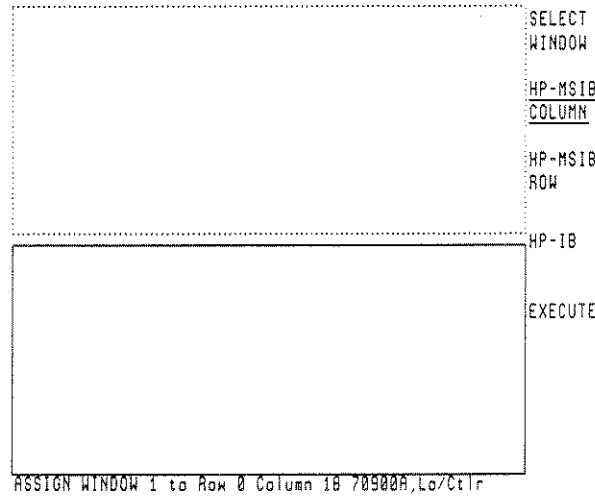

Fig. 21
4. Press `HP-MSIB COLUMN` and turn the knob until the bottom line on the screen shows that an HP 70900A module has been found (the factory default address is 0,18) as in figure 21.